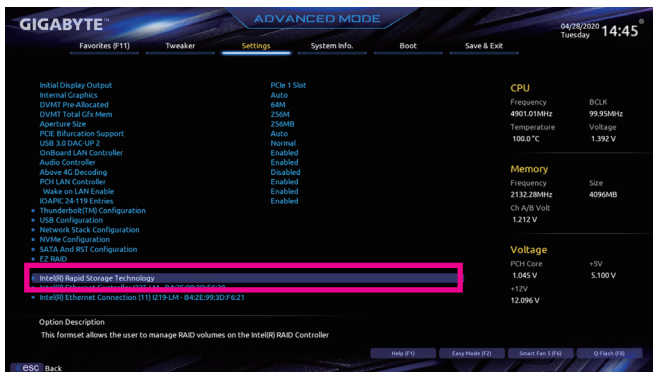

Figure 7
After the system reboot, enter BIOS Setup again. Then enter the **Settings** > **IO Ports** > **Intel(R) Rapid Storage Technology** sub-menu (Figure 7).